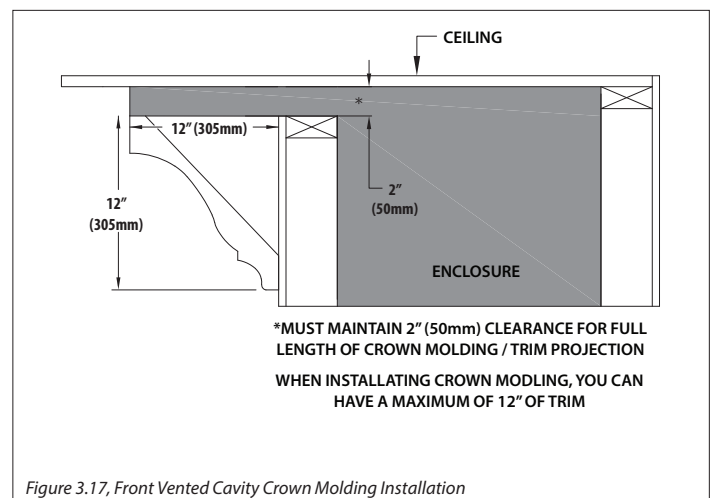

Figure 3.17, Front Vented Cavity Crown Molding Installation
- Figure 3.17 shows the installation of crown molding or similar trim work that goes up to the edge of the air discharge opening. This molding or trim cannot decrease the minimum opening requirement.